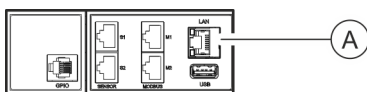

Fig. 24: LAN port
1. ➔ Insert the connector of the data cable into the LAN port on the Master PDU (Fig. 24/A).